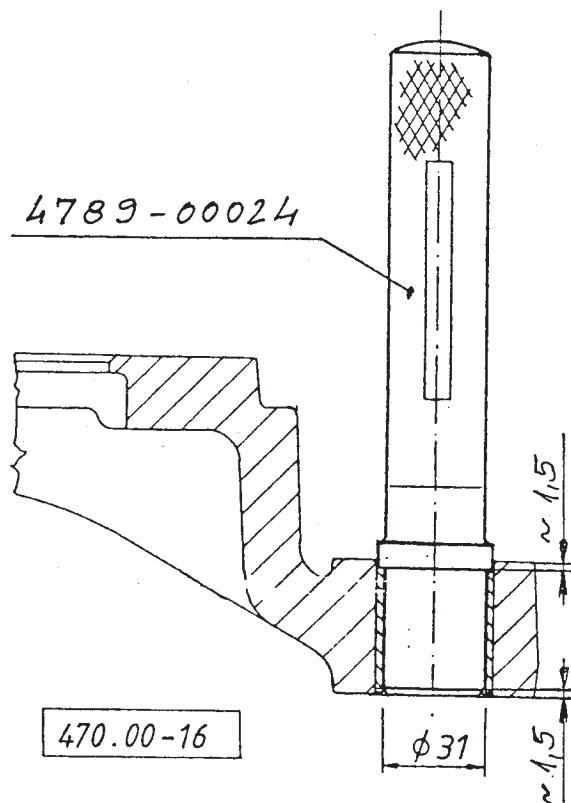

Fig. 1.: PRESSING THE BUSHINGS IN AND OUT
If the anchor pin bushing (16) are to be replaced, use the tool shown. **Fig. 1**.